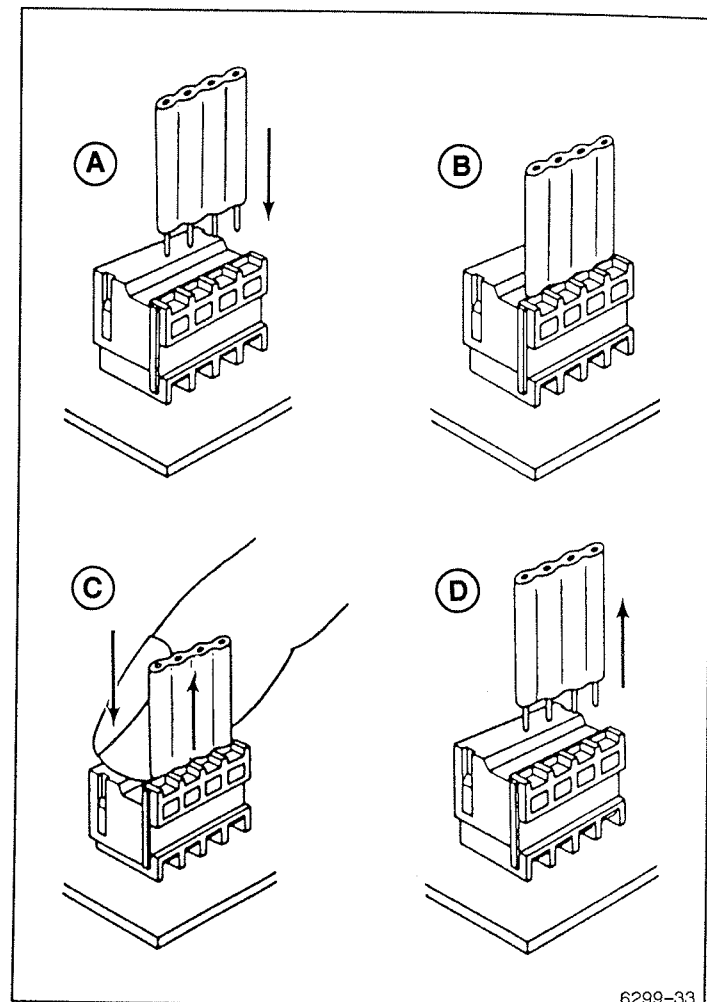

Figure 6-1. Multi-connector operation.
The multipin connectors of the 2225 are designed to make the interboard connections directly to the ribbon cables. Insert the trimmed ribbon-cable wires into the connector slots (see Figure 6-1 A). Pressing down on the release bar (the top of the connector) with your fingertip will make it easier to push the wires into the connector (see Figure 6-1
C). The cable locks firmly into the connector (Figure 6-1 B) when the pressure is removed from the release bar. To disconnect the ribbon cable from the connector, press down on the release bar and lift the cable out of the connector (see Figure 6-1 C and D). The ribbon cable wire should be evenly trimmed to expose 5 mm of wire (about 1/4 inch) for correct insertion into the connectors.